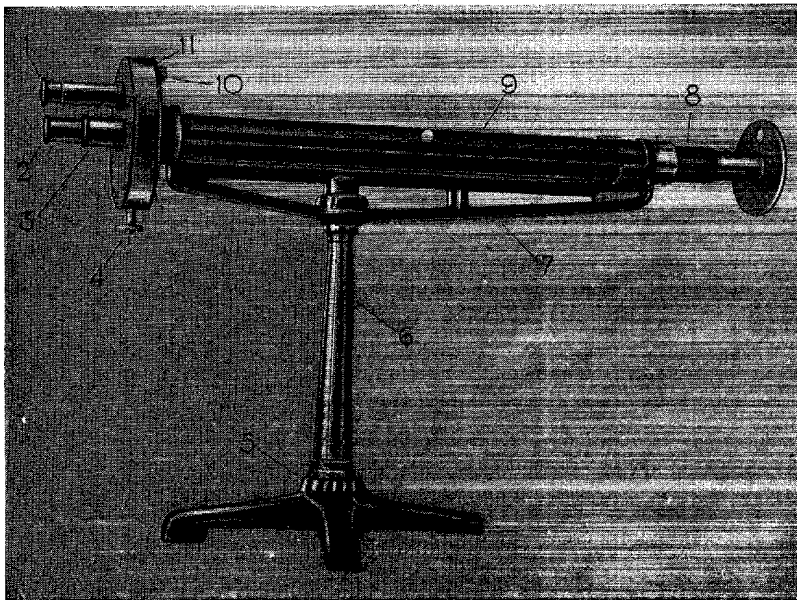

FIG. 1. Saccharimeter Model COK-1
The instrument (Fig. 1) consists of the following essential parts: polarizer unit (8) mounted on the bracket away from the observation end; analyser unit
(11) mounted on the observation head.